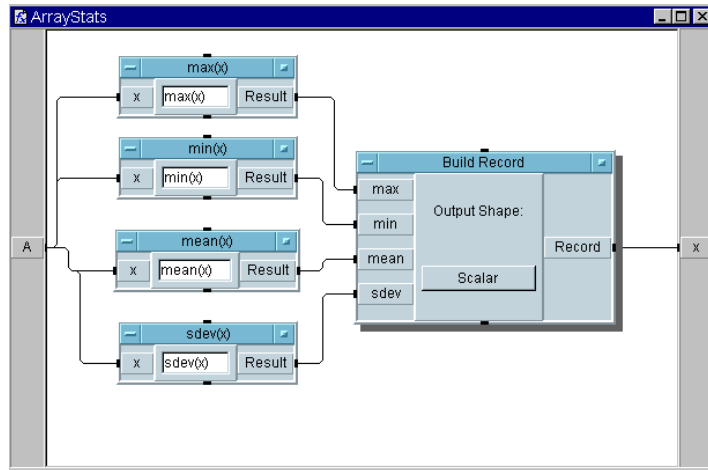

Figure 7-4. Editing the UserFunction ArrayStats
- f. Connect the Build Record output to the X output terminal on the User Function editing window. The program should look like Figure 7-4. Then click the iconize button on the window.